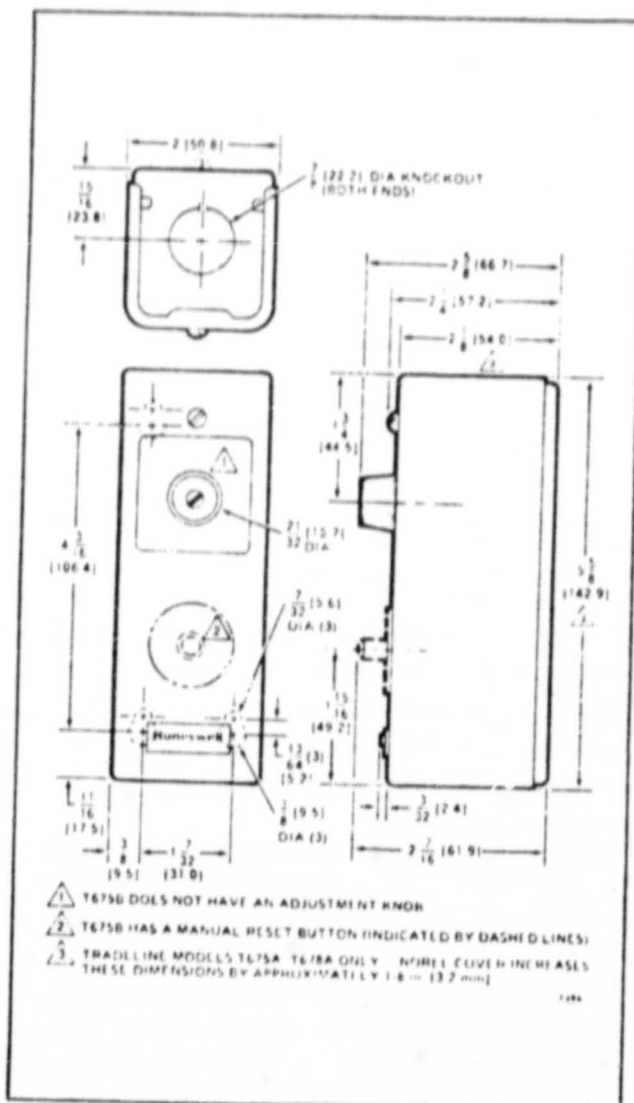

FIG. 1—DIMENSIONS OF THE T675 AND T678 TEMPERATURE CONTROLLER, IN in. [mm IN BRACKETS].
**CONTROLLER MOUNTING:** Any position; 3 screws through slotted holes in back of case (Fig. 1).
**DIMENSIONS:** See Fig. 1.
The controller may be installed in any convenient position. Mount it with 3 screws through the slotted holes in the back of the case (Fig. 1). Be sure to consider the length of the capillary before mounting the controller.